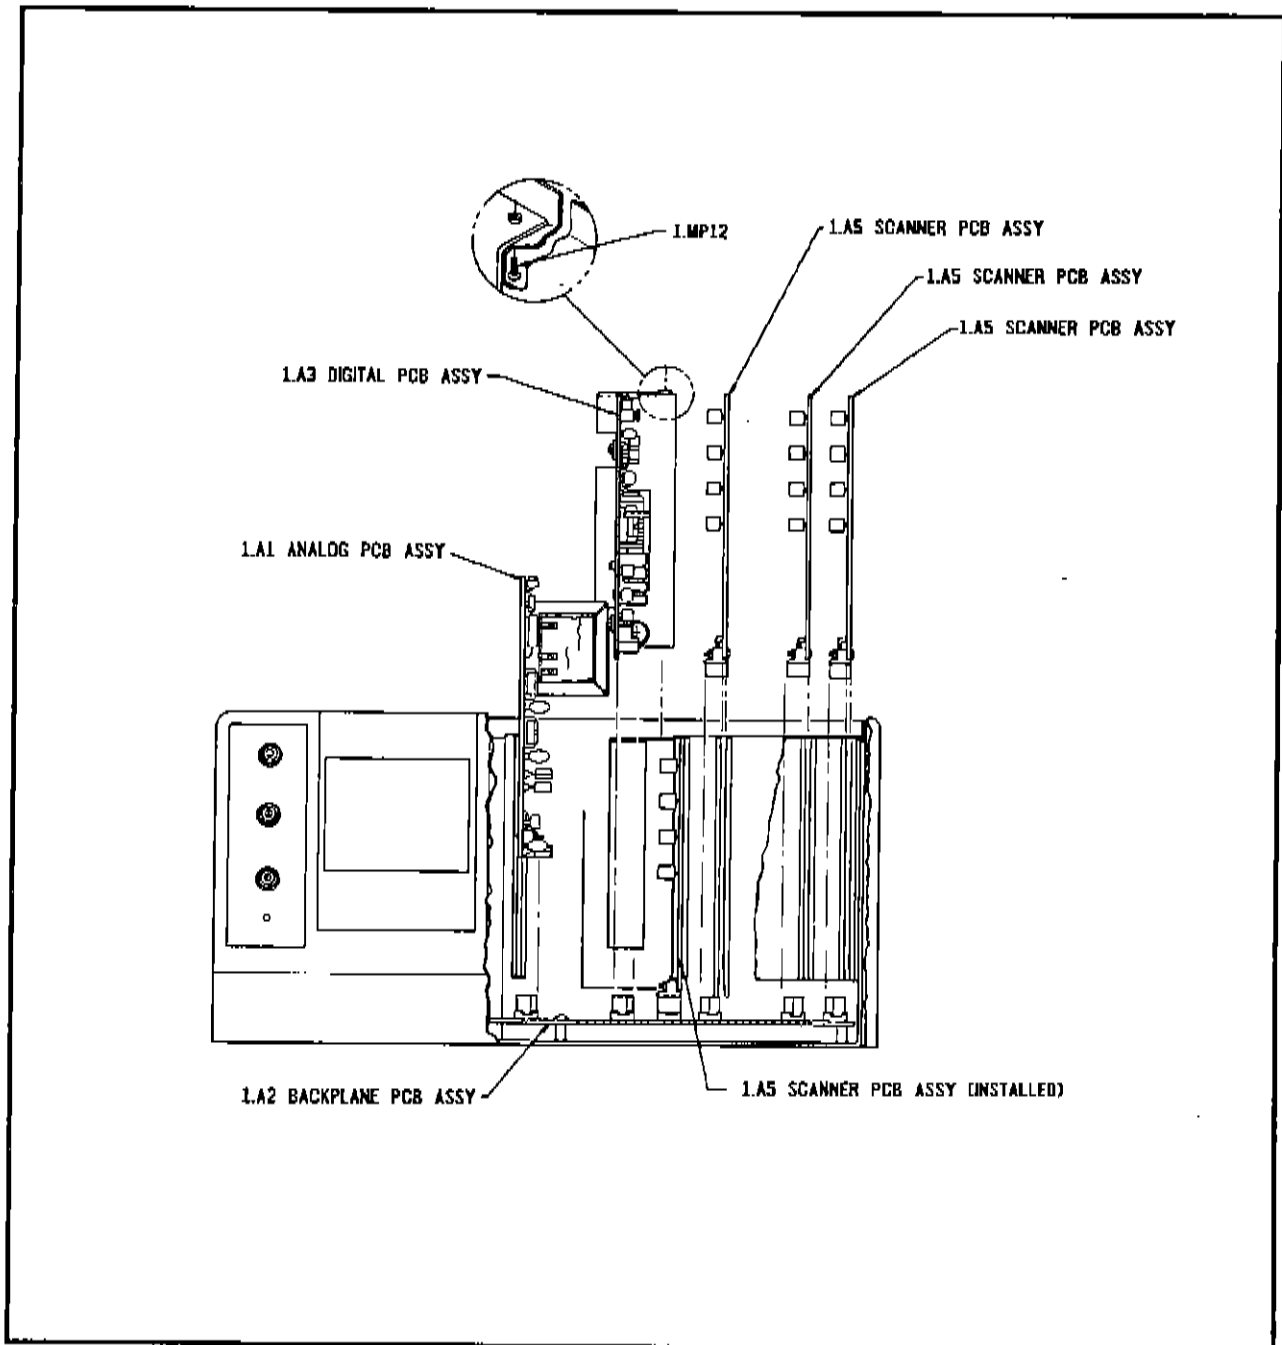

Figure 3-3. Analog, Digital, and Scanner PCB Removal.
3. Analog PCB Removal (refer to Figure 3-3)
4. Digital PCB Removal (refer to Figure 3-3)
5. Scanner PCB Removal (refer to Figure 3-3)
8. Scanner PCB Assembly (Figure 3-3)
### 9. Digital PCB Assembly (Figure 3-3)
### 10. Analog PCB Assembly (Figure 3-3)